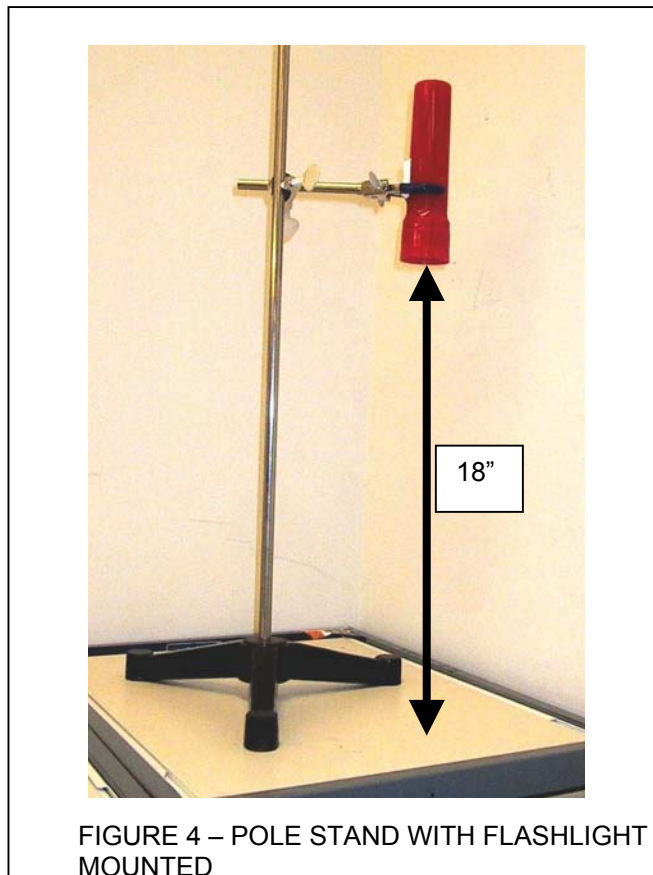

FIGURE 4 – POLE STAND WITH FLASHLIGHT MOUNTED
- 4) Mount the flashlight on the stand 18" above the surface of the lab bench as shown in Figure 4.